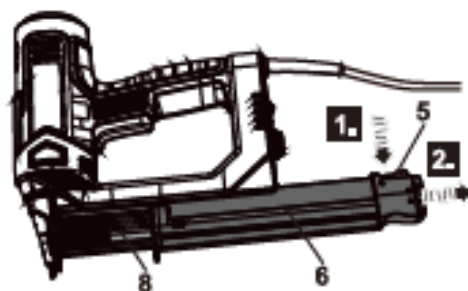
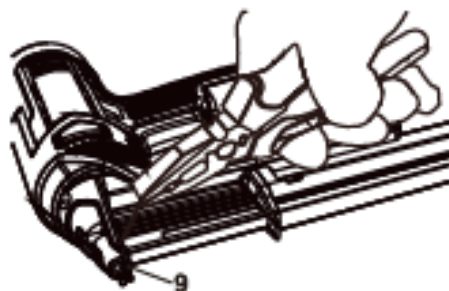

Fig. 11
Fig. 12
2. Press the magazine cover release (5) and pull the magazine slider (6) out of the back of the nailer until it stops (Fig. 11, steps 1, 2).
3. Remove all nails in the magazine (8).
4. For the jammed nail, remove it with a suitable pliers (not supplied) (Fig. 12).